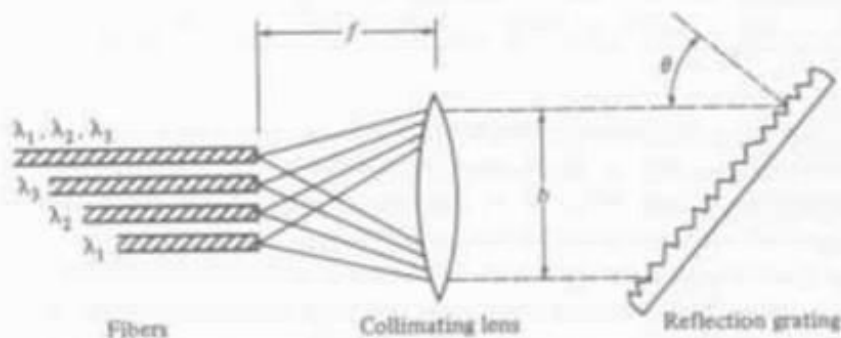

FIGURE P10-14
- 10-14. A plane reflection grating can be used as a wavelength-division multiplexer when mounted as shown in Fig. P10-14. The angular properties of this grating are given by the grating equation